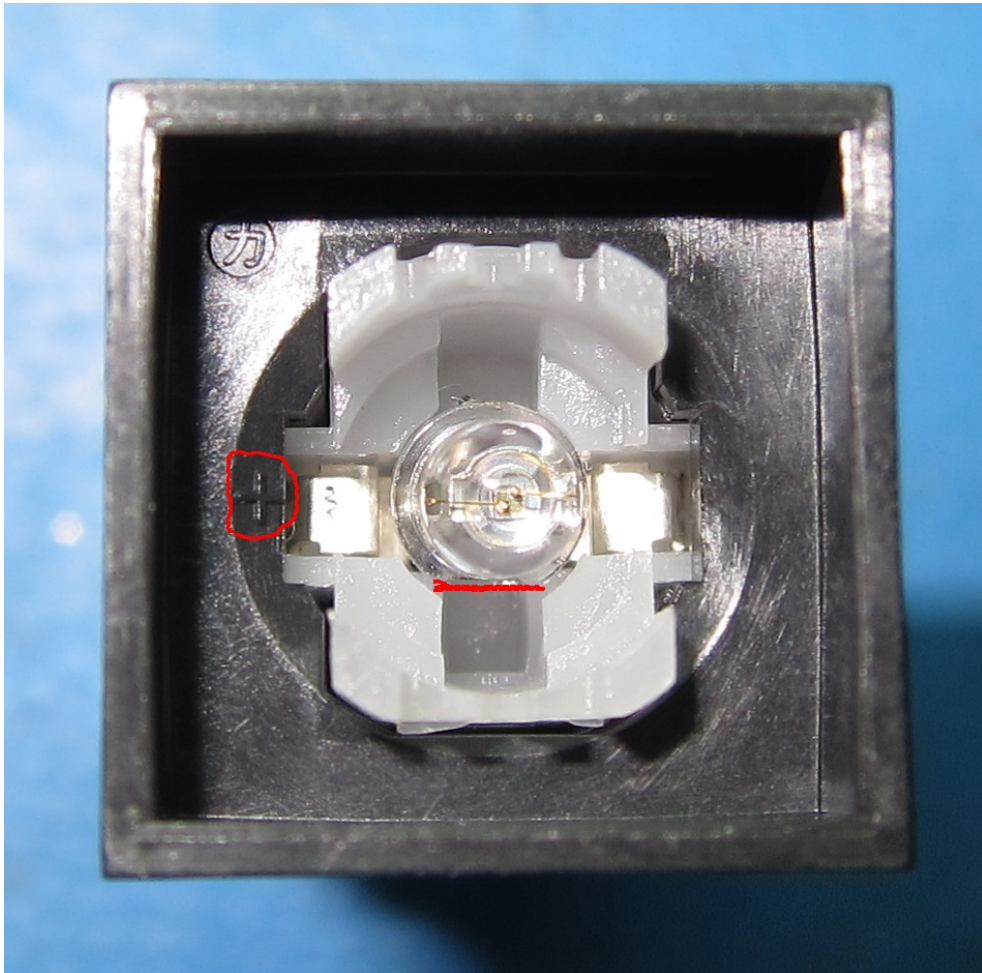

Figure 5: LED installed in the switch. Note the + marking on the switch and the orientation of the flat edge of the LED.
- (b) Position the switch with the + mark facing left, see Fig. 5.
- (c) Hold the LED with the flat side facing towards you, and insert it as shown in Figure 5.